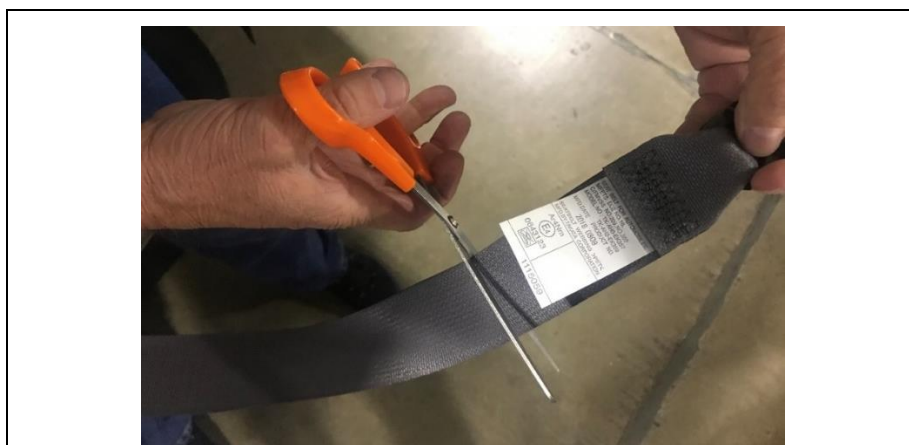

Figure 14
15. Use a pair of scissors or shears to cut off the webbed belt portion of the ***old*** tongue seat belt that has both the tag and the lower anchor. (See Figure 14.) Return this portion of the seat belt to your parts department for warranty retention. Discard the remaining portion of the old tongue seat belt assembly.